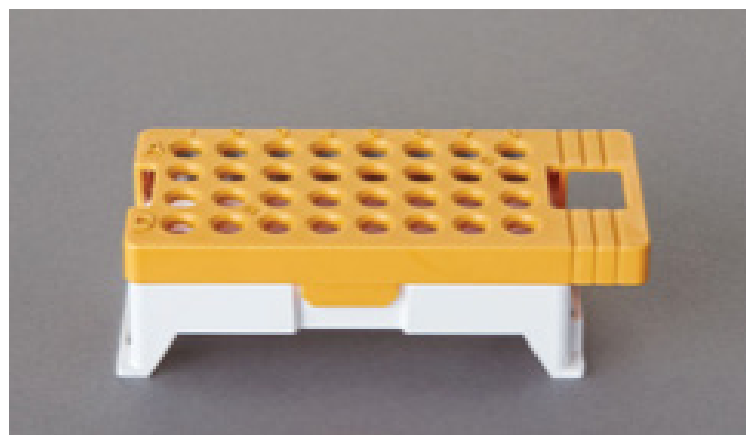

Figure 2. Assembled Spectrum Compact Sample Cartridge.
2. To complete the assembly, place the retainer over the strip in the strip base, aligning the lane names A to D and well numbers 1 to 8 on the retainer to those on the strip base and pressing until the retainer clicks into the strip base (Figure 2).